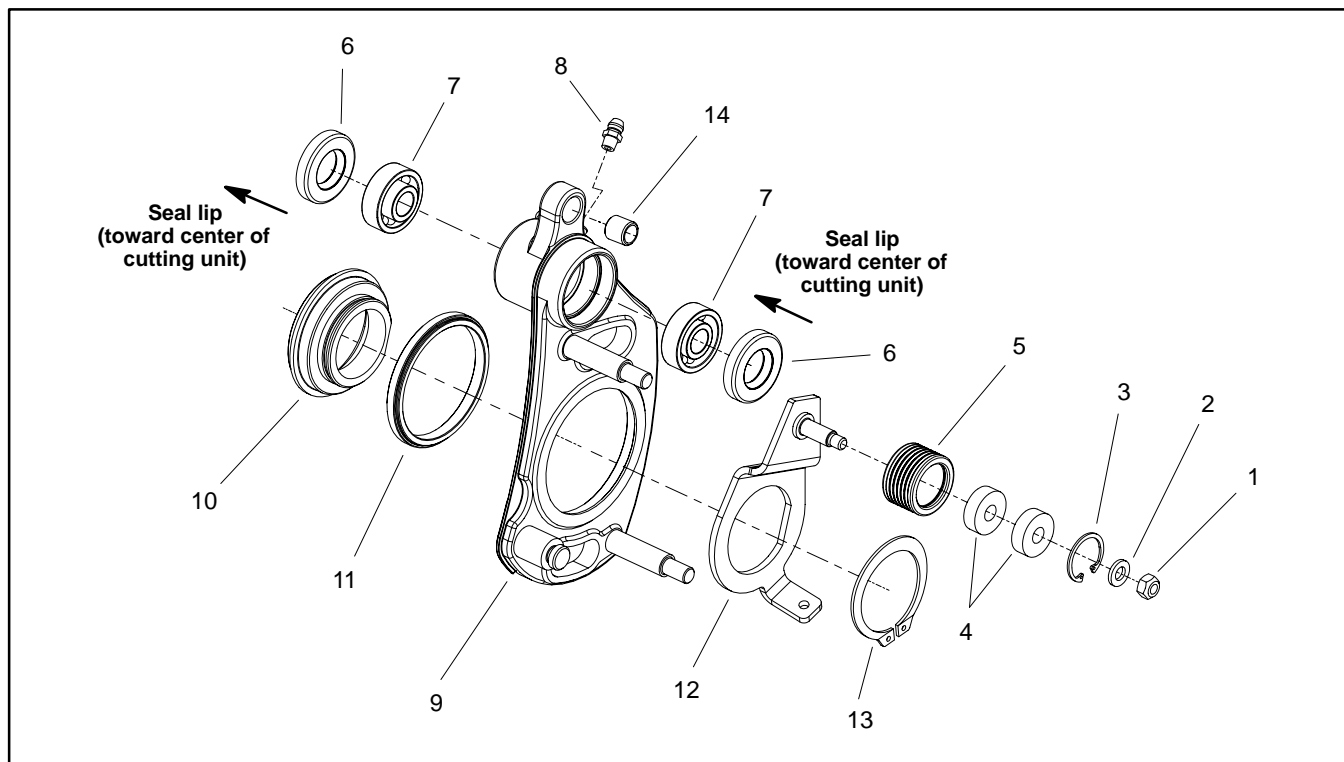

Figure 16
**Note:** The groomer reel drive is located on the opposite side of the cutting unit from the cutting reel hydraulic motor. Figure 16 shows the groomer reel drive from the left side of the cutting unit.
2. Using Figures 16 and 17 as guides, remove idler bracket, idler pulley and/or idler bearings as needed.
1. Reassemble components using Figures 16 and 17 as guides.